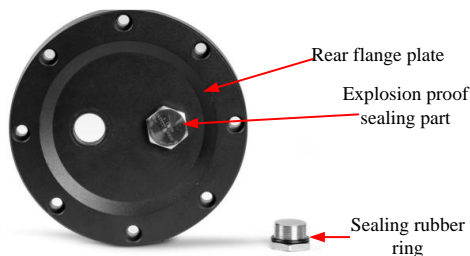

Figure 7
- (4) Install an explosion proof sealing part in the threaded hole on the right side of the rear flange, tighten it, and compress 1/3 of the sealing rubber ring to ensure the sealing performance, as shown in the following Figure 7: